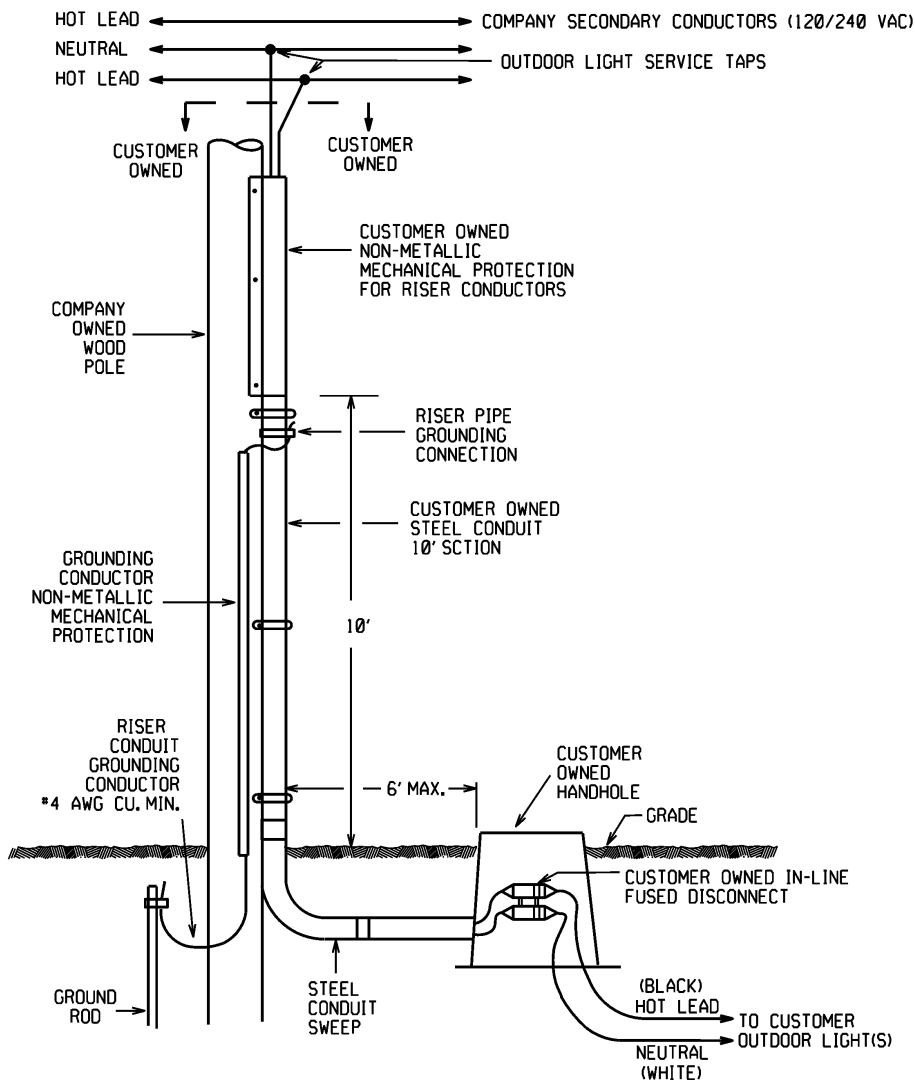

Figure 66 – Connection of Customer Owned Outdoor Lighting Riser to PPL Overhead Secondary Conductors
Electrical Separation: The customer is responsible to create an electrical separation between the PPL secondary conductors and the customer owned outdoor lighting conductors. This is required to ensure the safety of PPL and customer employees. This is accomplished by installing a dual pole in-line fuse holder with a midget cartridge style fuse on every outdoor light supply located as near as possible to the connection to the PPL owned secondary conductors. This fuse, in addition to providing electrical protection, shall serve as a future disconnect point for the customer owned outdoor light. Once installed, the customer may disconnect or reconnect a customer owned outdoor light only by means of the in-line fuse holder. See Figure 65 for overhead supplied outdoor lights, and Figures 66, 67, 68, or 69 for underground supplied outdoor lights. See Figure 71 for in-line fused disconnect details. The point of ownership demarcation is at the point of connection to the Company distribution system. The company owns up to and including the connector.
1. Install customer owned handhole as shown in Figure 66. Customer owned handhole shall house the in-line fused disconnect. See page 46-817 for details on the in-line fused disconnect.
3. No more than (2) riser conduits may be attached to a pole. Consult PPL Engineering if more than (2) risers are desired.
1. For all new installations and modifications to existing installations, the customer is required to install an in-ground handhole located as close as possible to the company provided electrical source point, as illustrated in Figures 66, 67, and 68.